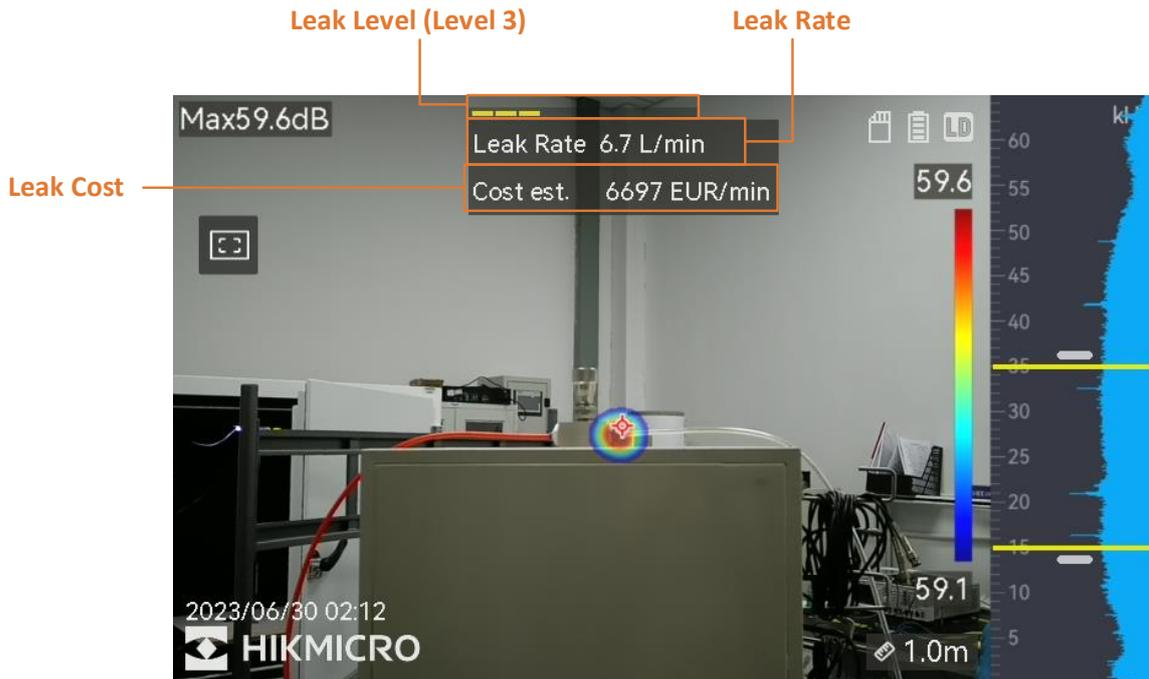

Figure 2-1 Leak Rate, Leak Cost & Leak Level Display
- **Leak Level:** Leak level refers to the severity levels of gas leak. The leak level includes 10 levels (from low to high levels: level 1 to 10). The higher the level is, the more severe the gas leak situation is. The leak levels are displayed as color rectangles in live view (see Figure 2-1).